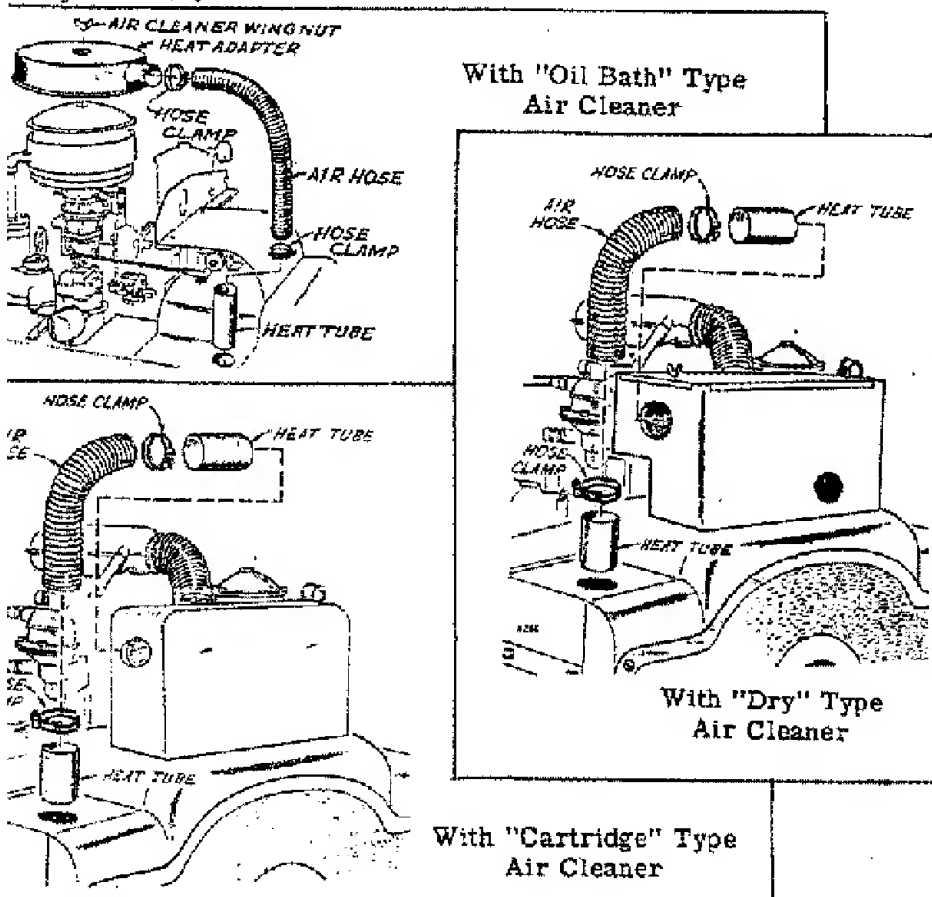

Fig. 12 Air Preheater Hose
**AIR PREHEATER HOSE KIT.** - An air preheater kit is supplied with all gasoline plants, for use in temperatures below 50°F. (10°C.). If a gasoline plant is to be operated in temperatures below 50°F., particularly if high humidity prevails, install the preheater kit. Refer to Fig. 12. Remove the sheet metal plug from the upper left corner of the engine blower housing. Assemble the hose to the air tube and insert the tube into the blower housing opening. Attach the other end of the air hose as shown, according to the type of air cleaner used. The preheater is not necessary when operating on kerosene (natural or LPG) fuel, AND SHOULD NOT BE USED.